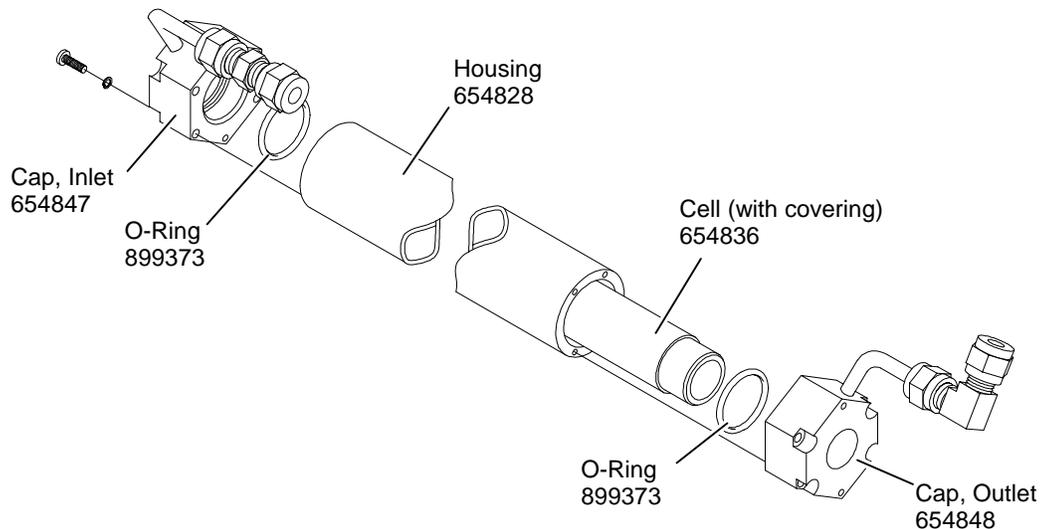

FIGURE 6-1. SAMPLE CELL ASSEMBLY
2. Pull the chassis out of the analyzer case and locate the optical bench. See Figures 6-1 and 6-2.